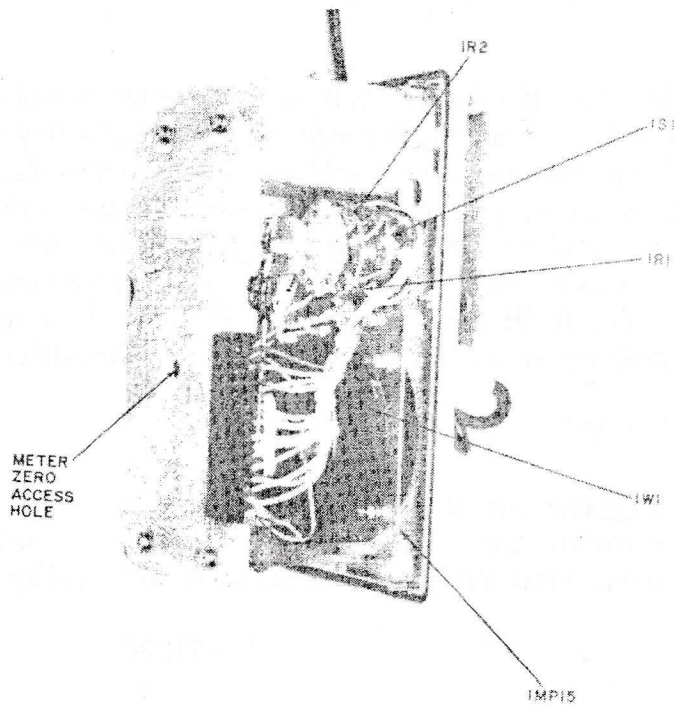

Figure 6-1. HDER G-01 Right Side
- 3) The meter should be examined. Observe the meter needle to see that it is not bent. Observe whether the needle is mechanically zeroed. Meter zeroing may be accomplished by removing the HDER-G01 from its housing and turning the meter zero adjusting screw located on the rear of M1. (See Figure 6-1). A clearance hole is provided in the printed circuit board for this purpose.
A. Tube Replacement. Both tubes are housed in the probe. V1 is a type 5979 Geiger-Mueller tube and is the low range (0.5 and 5 mR/hr) detector. V2 is a type 5980 Geiger Mueller tube and is the high range (50 and 500 mR/hr) detector. Refer to Figure 6-1 and 6-2.